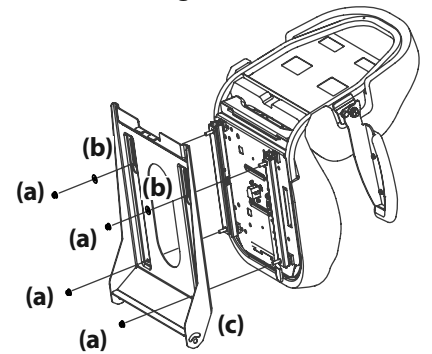

Figure 5
- For a Lever Adjust seat use flange lock nuts (a) and flat washers (b). See Figure 5.